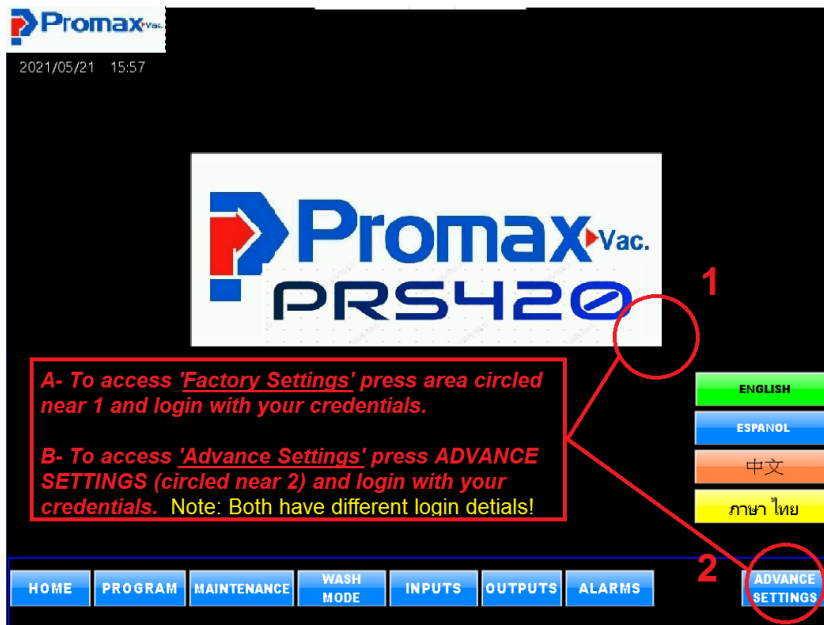

Fig.OP-5.29
-Press the marked (circled) points on the screen as shown in the below picture (Fig.OP-5.29) to access to factory reset option.